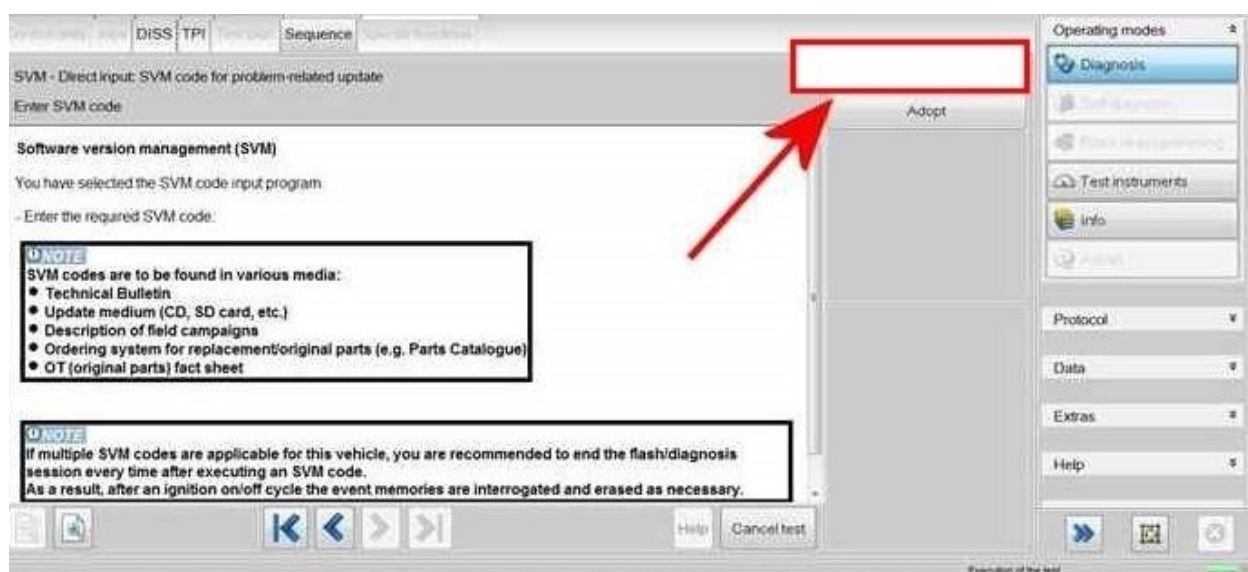

Figure 2
- 4) Referring to Figure 2 - Enter SVM code **370FTM01**